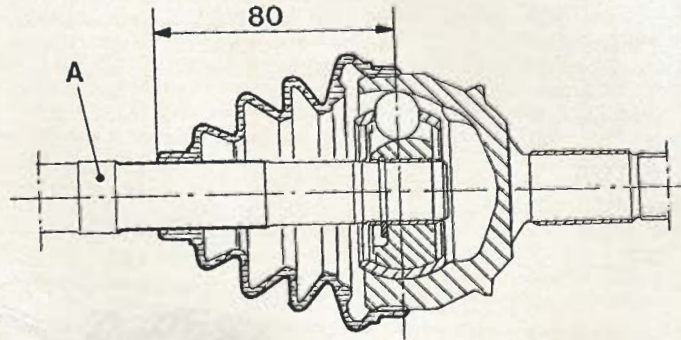

Fig. 7.4 Correct position of later type modified outboard joint gaiter fitted to early type driveshaft (Sec 7)
- 10 On later models, modified gaiters are fitted, which are a tighter fit on the driveshaft to improve sealing. The driveshaft is also modified, with a newly positioned shoulder ("A" in Fig. 7.4) against which the gaiter rests. *The modified gaiters can be fitted to early models, but the early gaiters cannot be fitted to later models.*
the end of the gaiter as shown in Fig. 7.4.